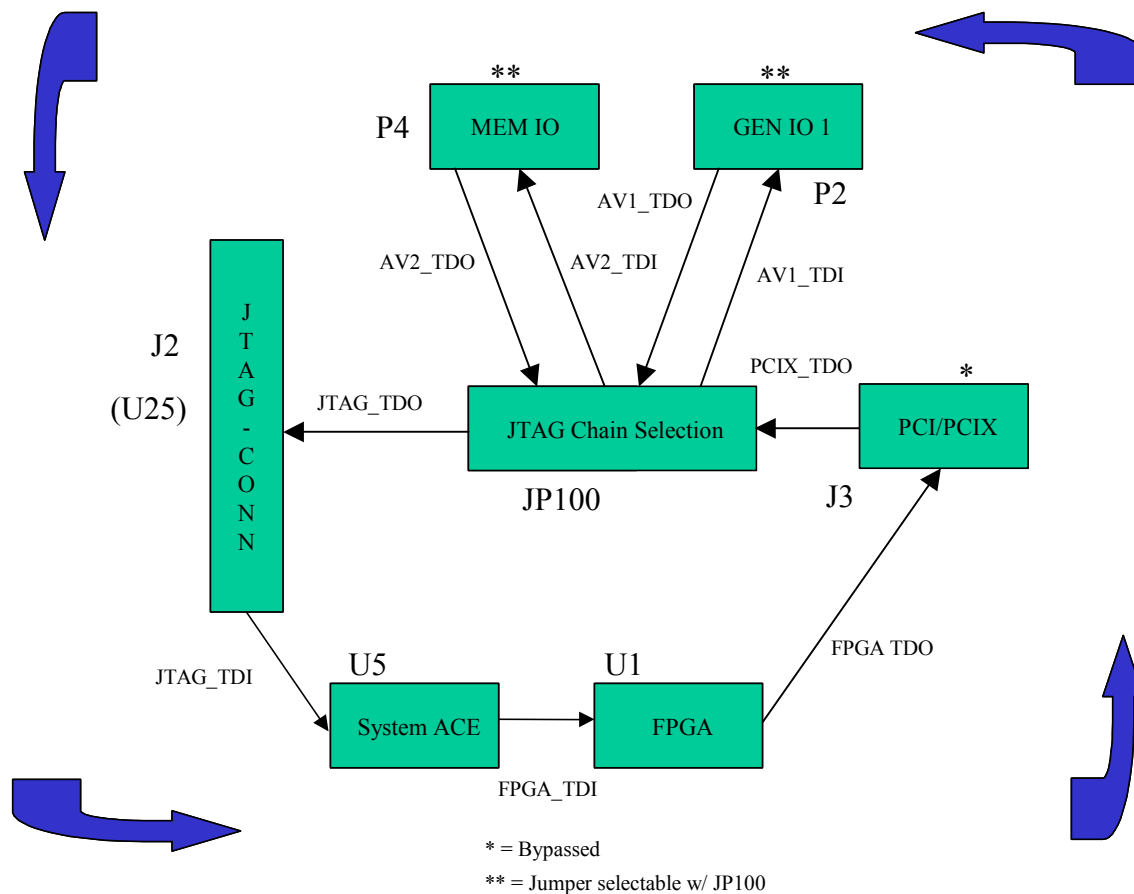

Figure 3-4: JTAG Chain
The Virtex-II development board has two (2) devices in its JTAG chain (FPGA and System ACE MPM). The JTAG chain is implemented as shown in Figure 3-4. The BSDL files for each device in the chain are given on Table 3-1.